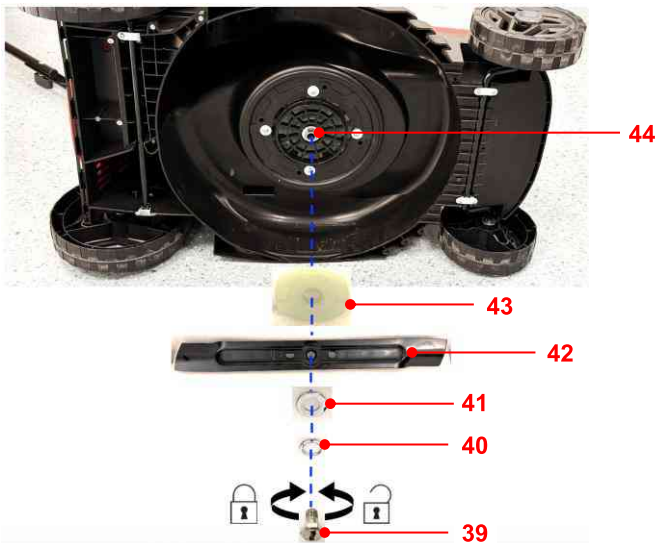

Fig. 3
- Replace the cutting blade with a new one of the same type. Ensure the cutting blade holder (43) and flat washer (44) are on the spindle. Align the patterns and attach the cutting blade (42) onto the cutting blade holder (43). Refit the flat washer (41), spring washer (40) and mounting bolt (39). Pre-tighten the mounting bolt by hand afterward.
- Hold the cutting blade (42) firmly with a heavy-duty gloved hand and / or a wood stick, tighten the mounting bolt (39) clockwise with **25 Nm min., 30 Nm max.** to ensure safe operation of your product (Fig. 3).